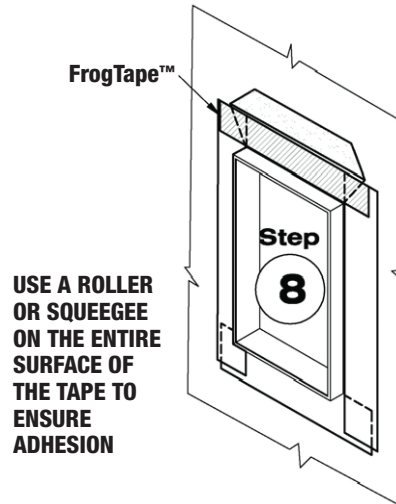

Figure 9 Apply perimeter sealant.
Step 8. Precut FrogTape Pro Grade Flashing Tape for the window header to extend a minimum of 6 in beyond the jambs of the prepared rough opening. Peel off release liner and adhere FrogTape Pro Grade Flashing Tape over window mounting flange (nailing fin) and wall surface substrate. Install supplemental head flashing (where applicable) with a strip of FrogTape Pro Grade Flashing Tape over the top leg (see Figure 9). Use a roller to apply sufficient pressure along the entire surface of the tape to ensure adhesion and a continuous seal, eliminating any wrinkles, creases or trapped air beneath the tape.